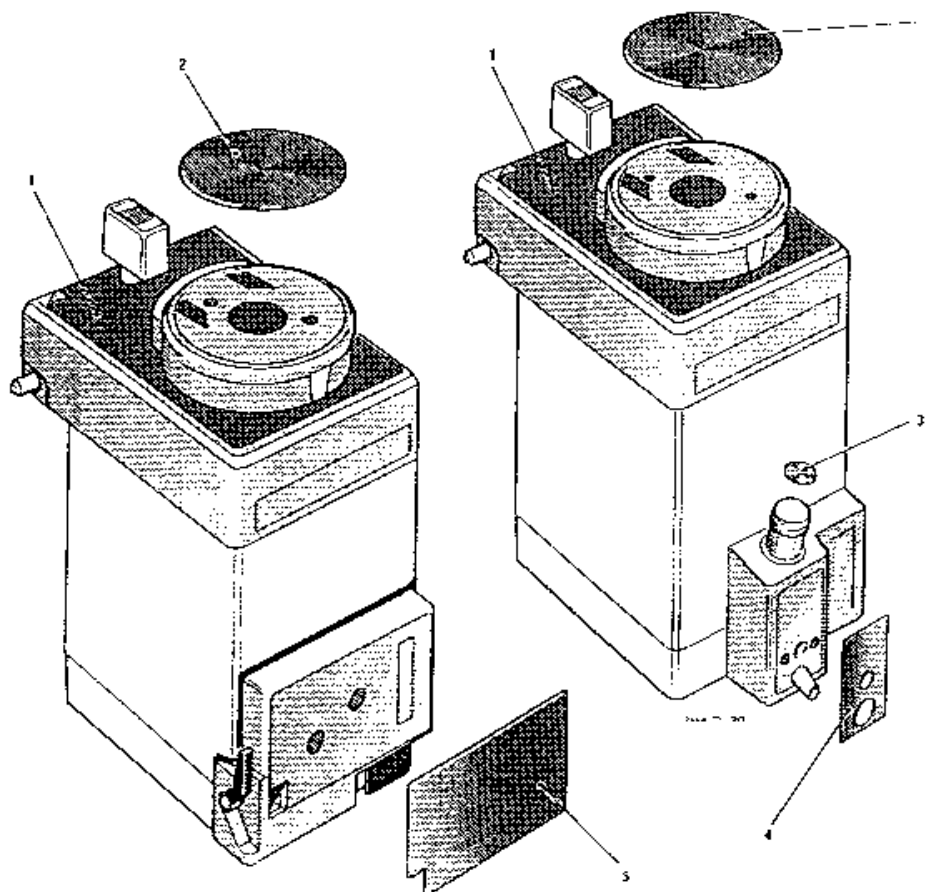

Fig. 10.16 Language/Agent Specific Labels
10.17.2 Language/Agent Specific Labels (Fig. 10.16) (See Sect. 10.17.3 For Part Numbers)